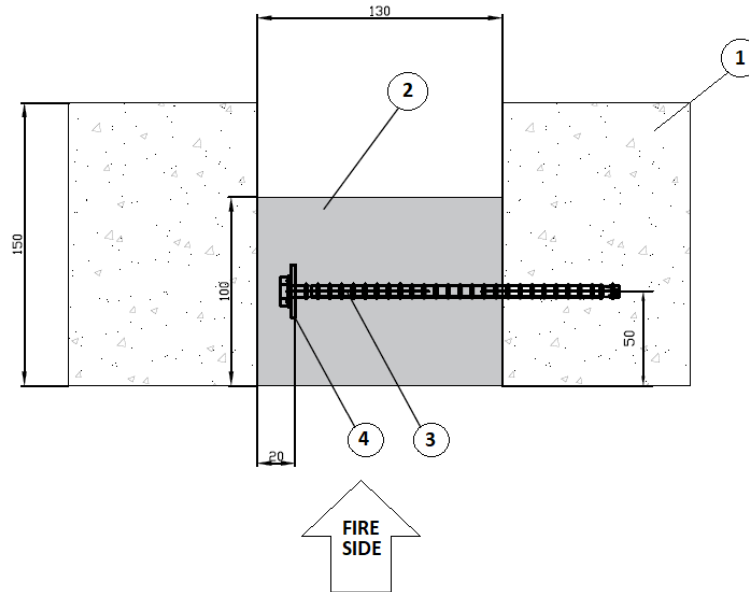

FIGURE 1
FIRE JOINT SEAL: Install CFS-NVB E120 FB (Full board) or CFS-NVB E120 (Prefabricated) fire joint seal made of 100 mm thick, 70 kg/m³ density, aluminum foil faced mineral wool slab, with or without splice, flush to the fire side of min. 150 mm depth supporting floor construction as shown in Figures 1 and 2. CFS-NVB E120 FB (Full board) is cut according to joint width on site. CFS-NVB E120 is supplied prefabricated, cut to size according to joint width and one edge finished with PE tape.
3. SCREW: As shown in Figure 1, min. 6 mm thick and 80 mm to 180 mm long zinc-coated steel screws